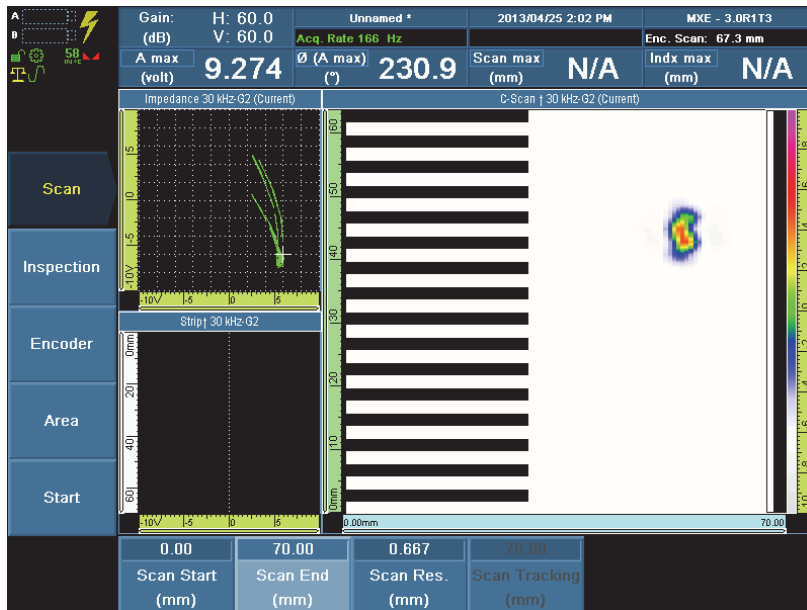

Figure 9-8 Setting the Scan End parameter for a 1:1 ratio in the C-scan view
- Set the **Scan End** parameter to display the data in the C-scan views with a 1:1 ratio between the scan axis and the index axis. Select **Scan >Area > Scan End = 70**, and then press the Accept key to confirm (see Figure 9-8 on page 138).